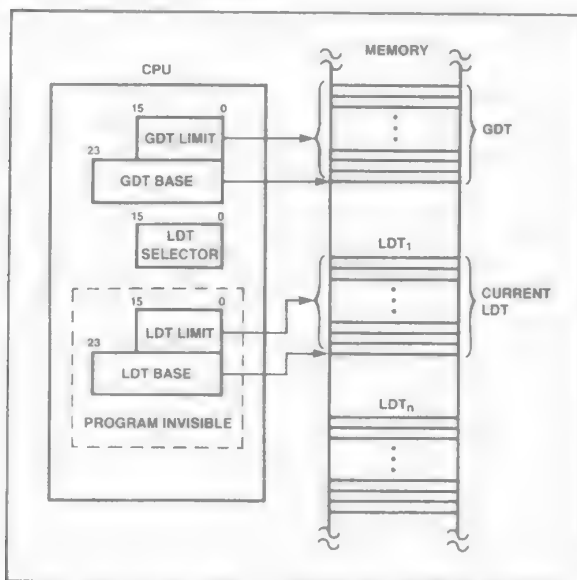

Figure 16. Local and Global Descriptor Table Definition
Two tables of descriptors, called descriptor tables, contain all descriptors accessible by a task at any given time. A descriptor table is a linear array of up to 8192 descriptors. The upper 13 bits of the selector value are an index into a descriptor table. Each table has a 24-bit base register to locate the descriptor table in physical memory and a 16-bit limit register that confine descriptor access to the defined limits of the table as shown in Figure 16. A restartable exception (13) will occur if an attempt is made to reference a descriptor outside the table limits.